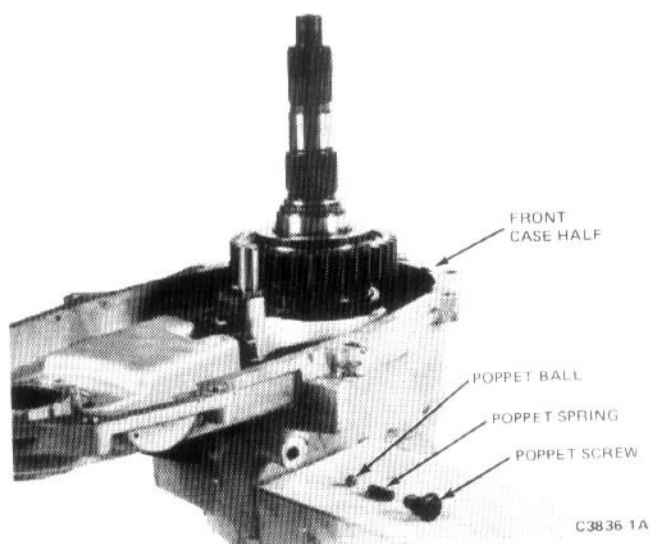

FIG. 10 Removing Poppet Assembly
10. From the bottom of the front case half, remove the screw, poppet spring and check ball from the case (Fig. 10).